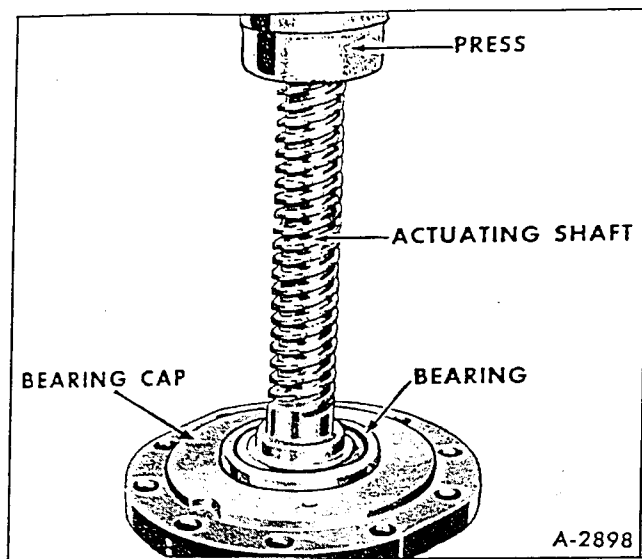

Figure 32 – Installing Actuating Shaft in Bearing Cap
8. Lubricate surface between seals with a suitable ball bearing lubricant then press actuating shaft assembly into the bearing cap (fig. 32).